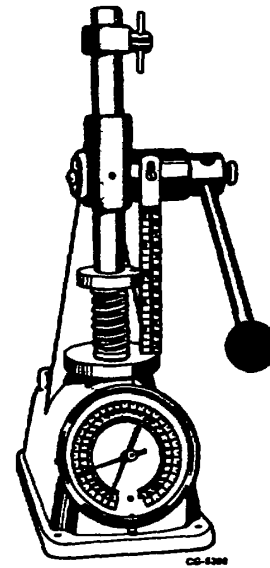

Figure 45. Checking Valve Spring Tension
24. Using spring tester such as SE-2241 (Figure 45) check springs for proper tension (See SPECIFICATIONS). Weak valve spring tension can result in valve "float" (unsatisfactory closing) and valve bounce, which is common cause of seat pounding and valve breakage.